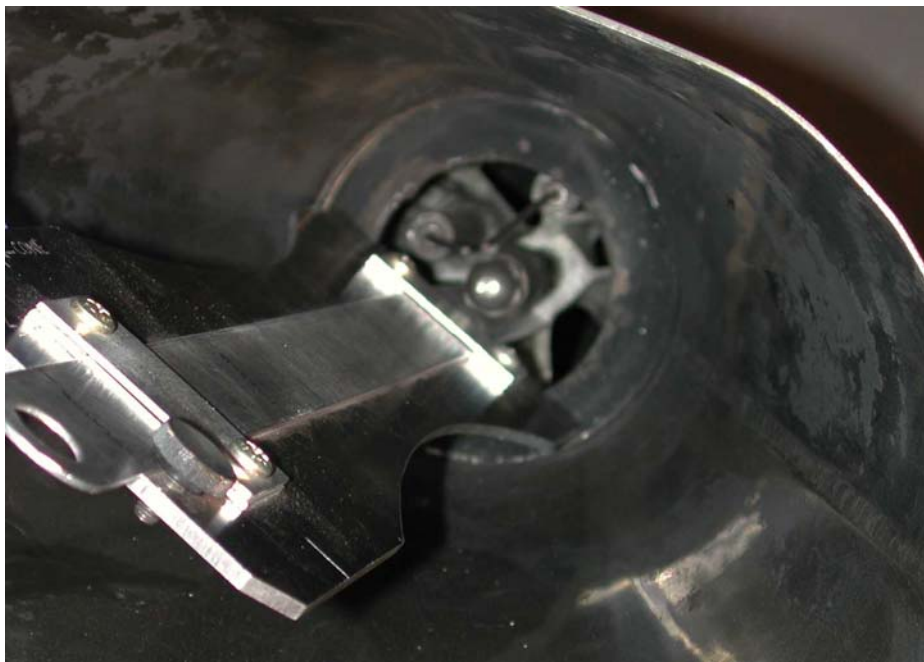

Figure 5. Checking Stator Depth
- Using dipstick as in previous steps, slide in until it bottoms against face of stator (figure 5). Tighten thumb screw and remove. The correct stator depth is indicated by the scribe mark on the tool.